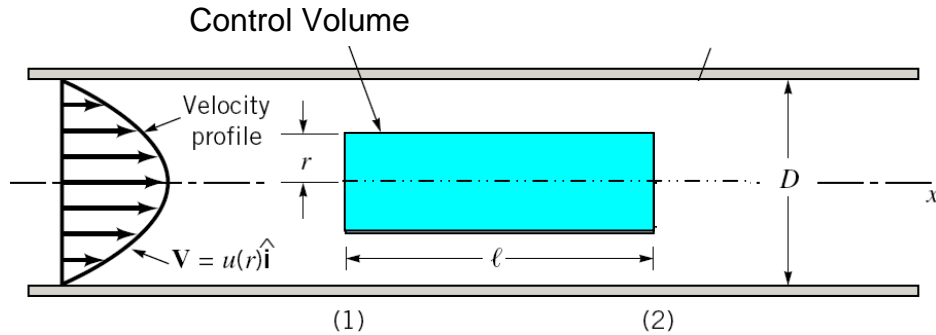

Figure 1: Laminar flow in a circular pipe.
- Consider the control volume below (Figure 1) and indicate the forces exerted on the control volume. Give a physical explanation.